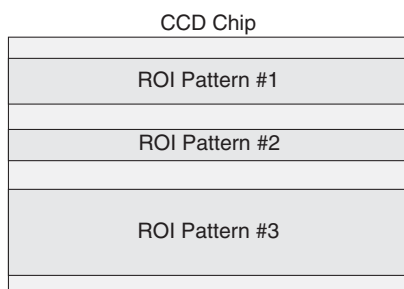

Figure 133. Multiple Full-width ROIs
1. ROIs cannot overlap. This places restrictions on the Slit (Y) values that can be specified. For example, if Pattern 1 has a Slit Start value of 1 and a Slit Height 100, the Start value for the next ROI must be greater than 100. *If a Full pattern is selected and stored, it overlaps all others, causing all data collections to be full-chip.* Figure 133 illustrates multiple full-width ROIs.
Note: In Spectroscopy mode, ROIs created via the mouse are limited to full chip width like the ones depicted in Figure 133. This is not the case in Imaging mode.